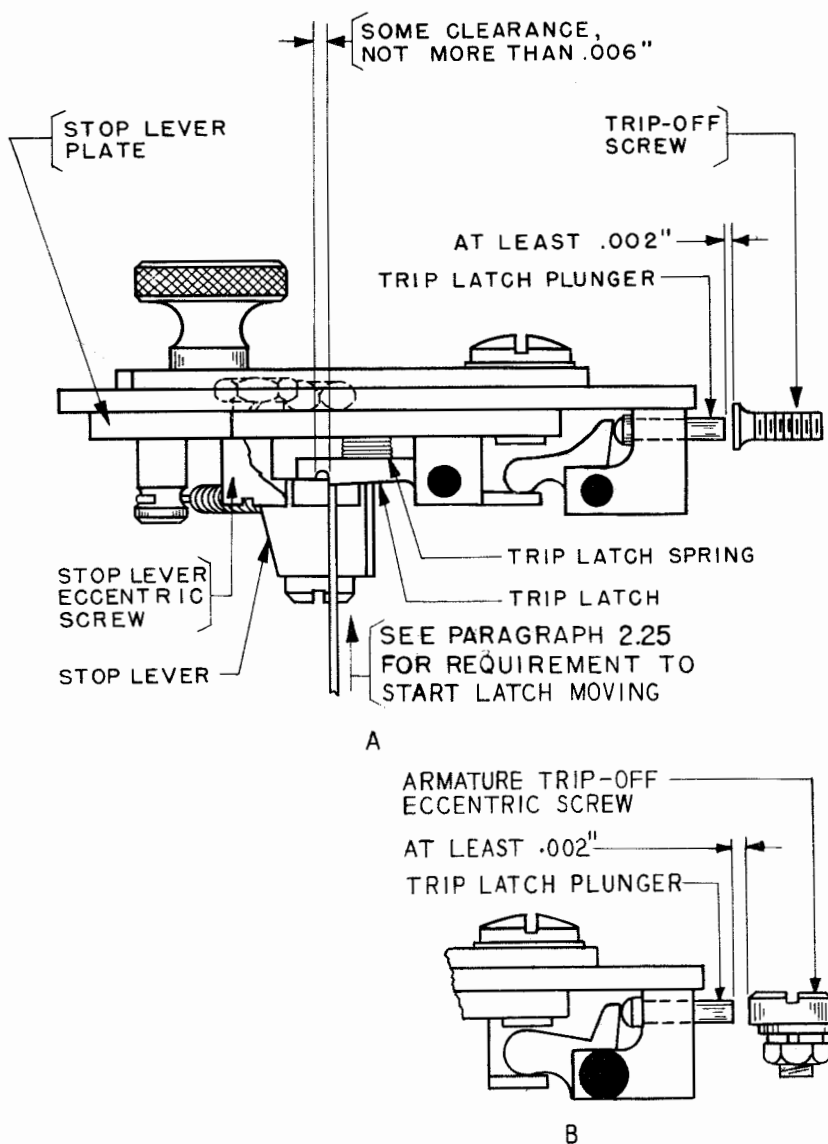

Figure 22
2.26 The Triplatch Spring: Compression, measured when the range finder is horizontal should be: (See Figure 22.)
2.27 Stoplever should have some clearance, not more than 0.006 inch, as indicated in Figure 22, from the latching surface of the triplatch when the stoplever is resting against the stoplever eccentric screw.
2.29 Range-finder Positioning Link: Stoplever (For machines having the TP119629 positioning link, not shown in Figure 22) should overtravel the latching surface of the triplatch at least half but not more than the width of the stoplever, with the
selector-magnet armature in the spacing position and the selector camsleeve rotated until the stoparm moves the stoplever to its maximum travel beyond the step of the triplatch. This should be checked with the range indicator set in turn at 0, 60, and 120 on the range scale. In checking at 120 it probably will be necessary to operate the triplatch manually in order to release the camsleeve assembly. See Figure 22 for identification of parts.